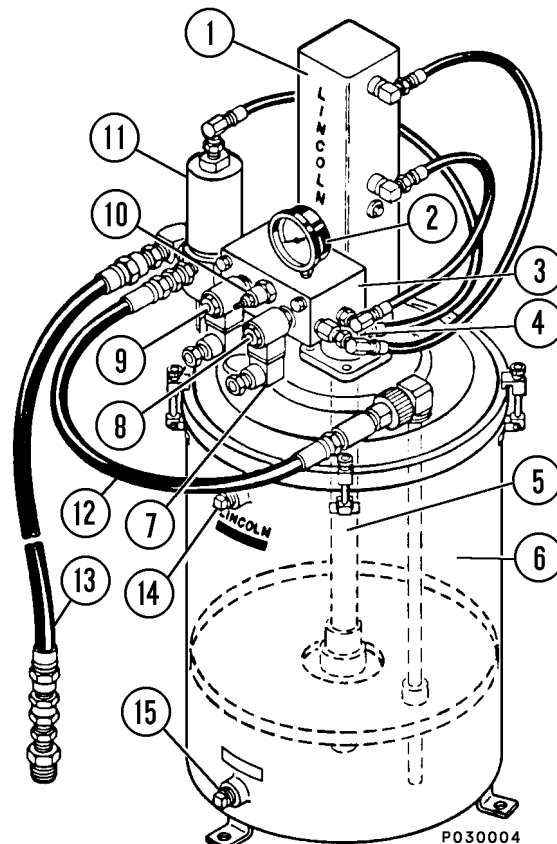

FIGURE 4-12. TYPICAL AUTO LUBE SYSTEM
1. Remove top vent plug (14, Figure 4-12).
2. Remove bottom fill plug (15).
3. Connect line from Lubricant Delivery system to bottom fill port (15) and fill reservoir until grease just begins to come out of top vent hole above.